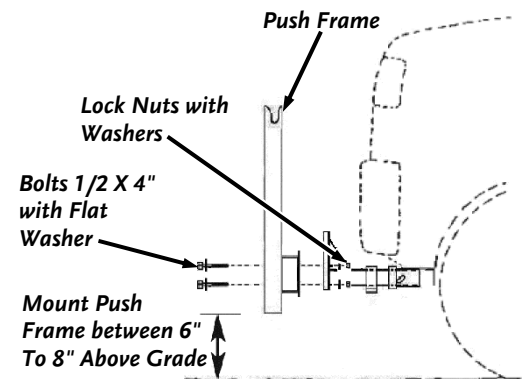

Figure 7
13. Hold push frame up in line with pair of holes on interceptor, that when bolted, will hold push frame 6 to 8 inches above grade (**Figure 7**).